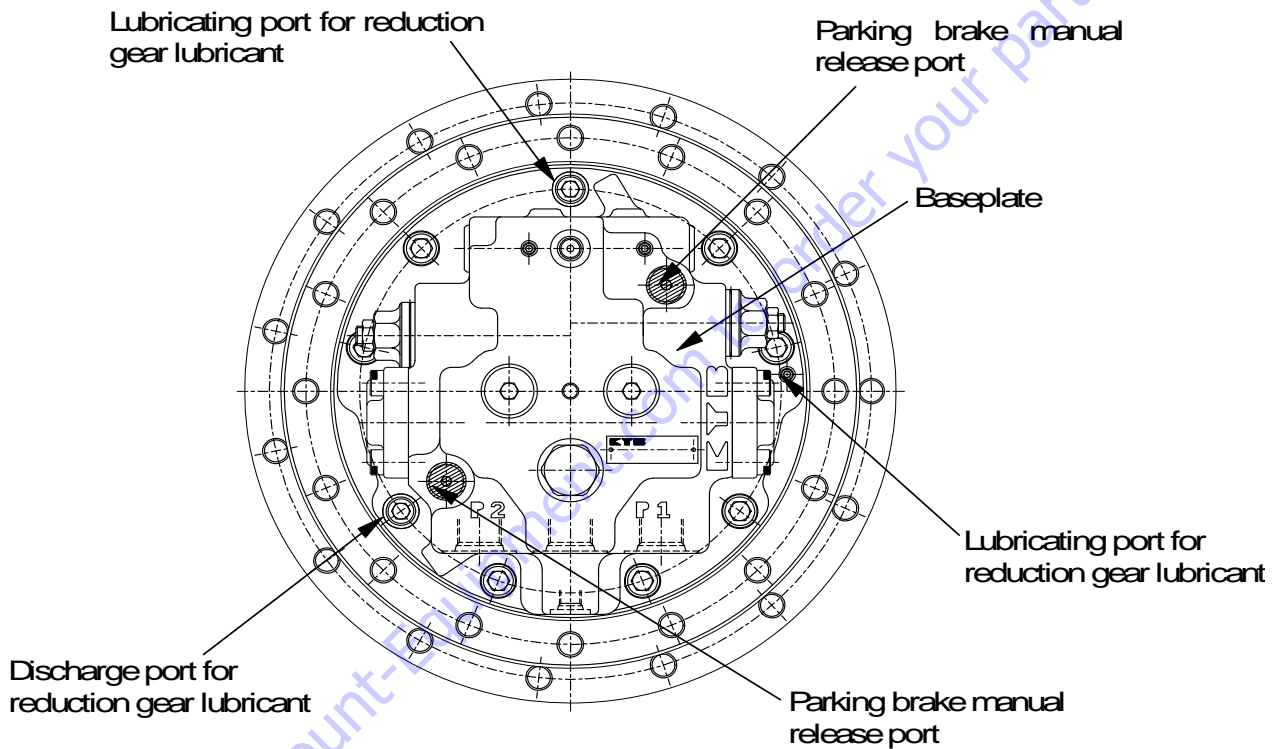
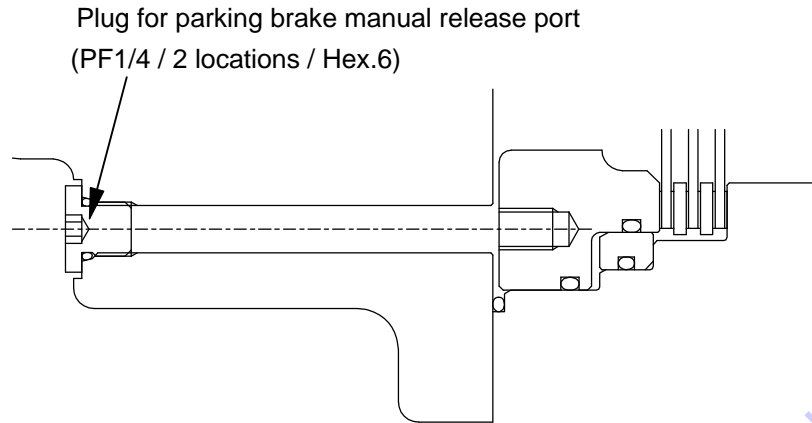

Figure 5-12. Position of Parking Brake Manual Release Ports
Figure 5-13. Procedures for Manually Releasing Parking Brake (step 1)
1. Remove blind plugs in PF1/4 of parking brake release ports. (Refer to Figure 5-12. and Figure 5-13.)